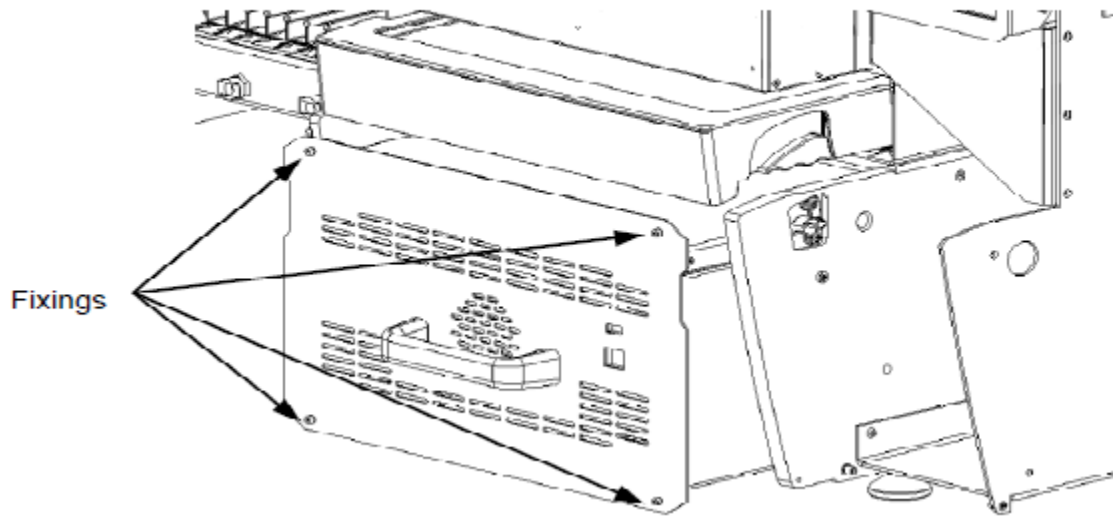

Figure B-3: The Electronics Box
2. Remove the Fitting screws for the Electronics Box assembly (Figure B-3).